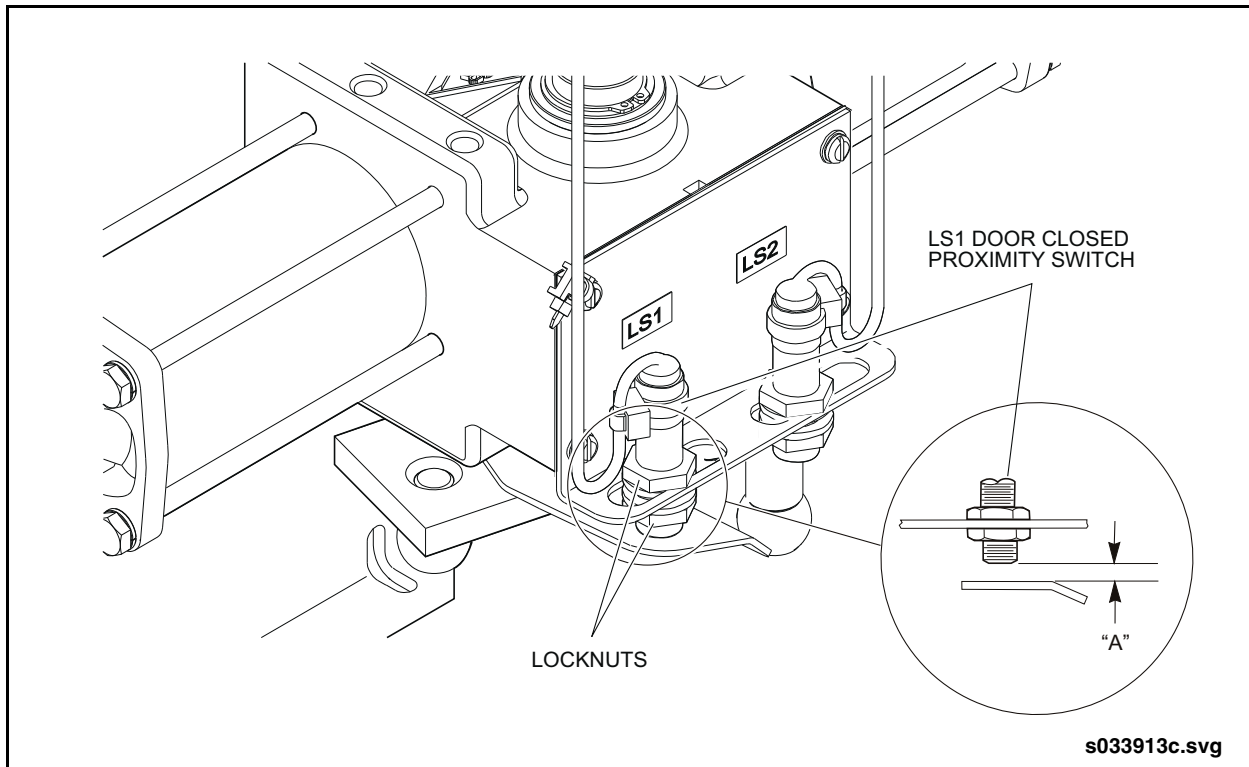

Fig. 1: Proximity Switch Adjustment (Door Closed).
2. Use a feeler gauge to measure gap between teeter lever and bottom of the LS1 proximity switch. Loosen switch lock nuts as required and adjust switch to obtain a gap of 0.080 ± 0.010 inches (2.00 ± 0.13 mm) (Dim "A"). See "Fig. 1: Proximity Switch Adjustment \(Door Closed\)." on page 2.
4. Use a feeler gauge to measure gap between teeter lever and bottom of the LS2 proximity switch. Loosen switch lock nuts as required and adjust switch to obtain a gap of 0.080 ± 0.010 inches (2.00 ± 0.13 mm) Dimensions in Fig 1 applies to LS2